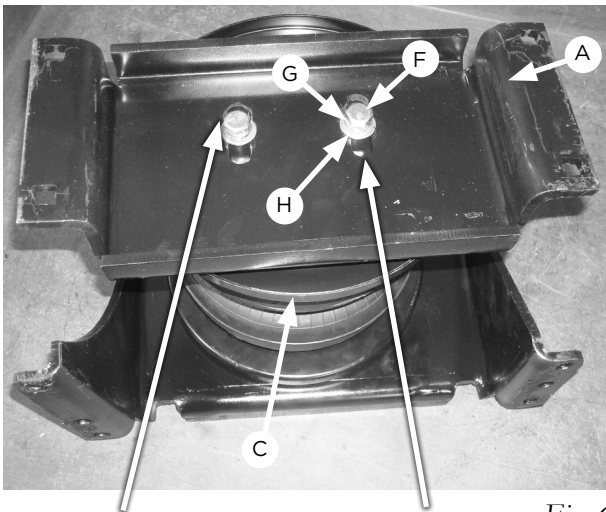

Fig. 6
3. Flip the assemblies over and set a roll plate (C) and lower bracket (A) onto the bottom of the air spring assemblies making sure that the slot in the lower bracket aligns with the slots on the upper bracket (Figs. 6 & 7). Attach to the air spring with 3/8" hex cap screws (F), 3/8" lock washers (G) and 3/8" flat washers (H). Center the air spring in the slots and torque the lower bracket hardware to no more than 20 lb.-ft. (27Nm).